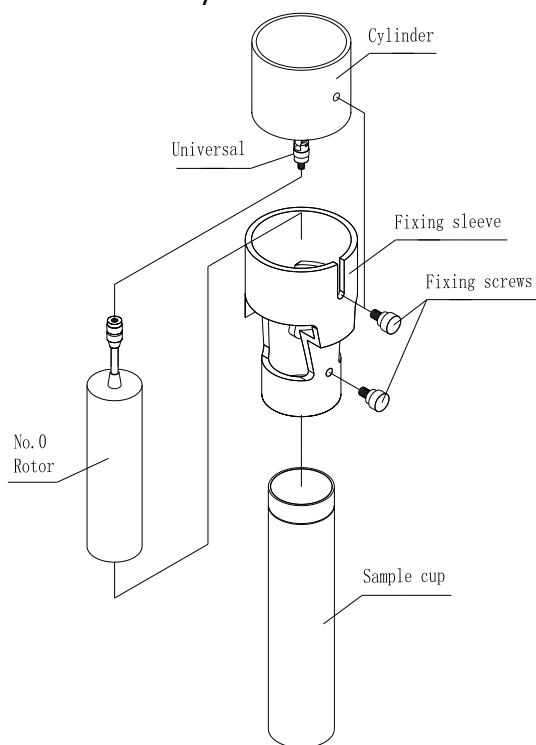
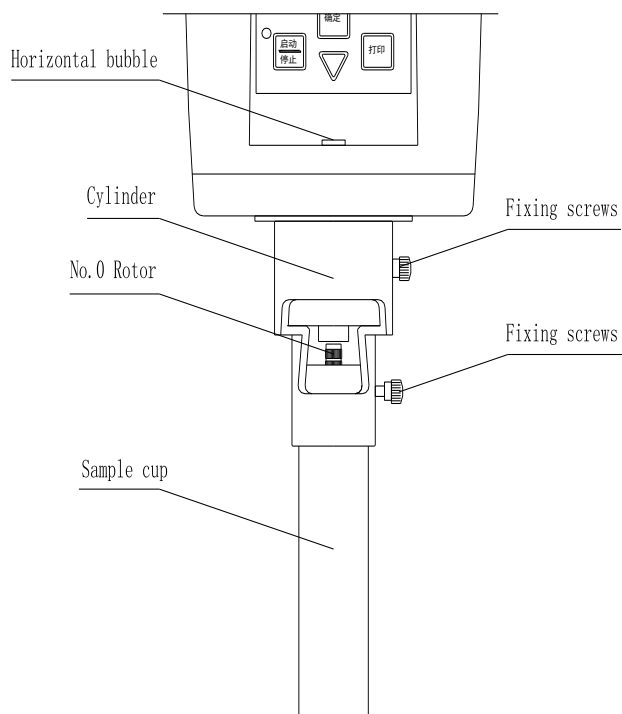

Fig. 5
Fig. 6
(2) Install rotor #0 as per Fig. 5, firstly mount rotor #0 onto the rotor connecting screw (universal joint) by rotating it **clockwise (counter-thread)**.
(3) Attach the fixing sleeve to the cylinder under the instrument from bottom to up (avoid touching rotor 0#), and fix the sleeve with fixing screws.
(4) Transfer 20mL of the tested liquid into the sample cup.
(5) Insert the sample cup with liquid from bottom to the top of the fixing sleeve, and then fasten by the fixing screws (don't touch rotor 0# when inserting), the cone end of fixing screw must be tipped to the triangular chute on the upper end of the outer sample cup. The completed installation of rotor #0 is shown as Fig. 6, and testing can be started when the liquid temperature is controlled and the instrument is leveled.